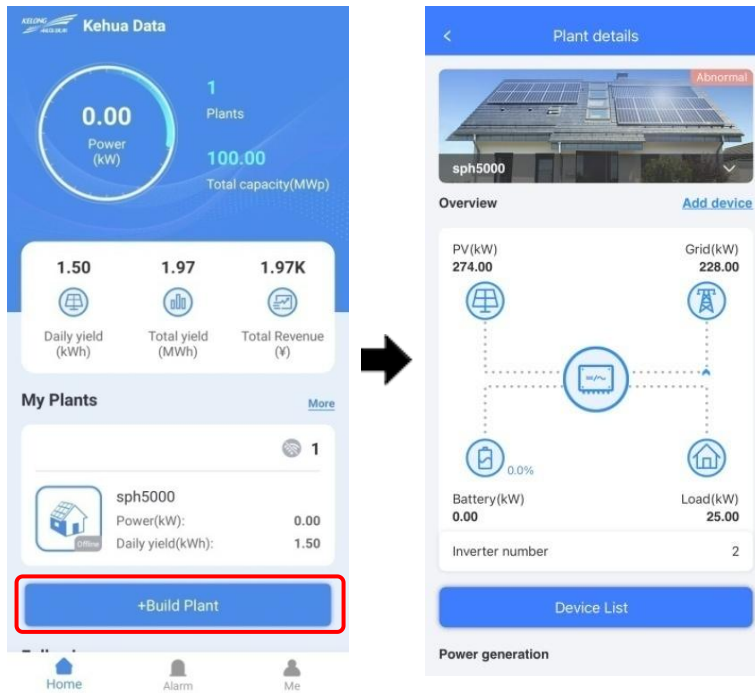

Figure4-4 Home interface
Step 6 Back to main page and click the "**Built plant**", as shown in Figure4-4.